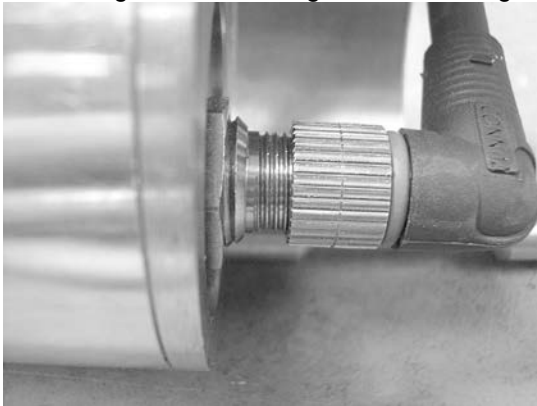

Figure 1- HD300 and HD300-1
2. Match up the alignment tab/key of the connector and the receptacle rotationally then carefully insert the adapter cable into the mating receptacle. Special care should be taken to keep the connector and receptacle parallel to each other (aligned straight) otherwise the pins can be damaged and bent. Tighten the nut finger-tight only, do not use pliers. See Figures 1 and 1a.